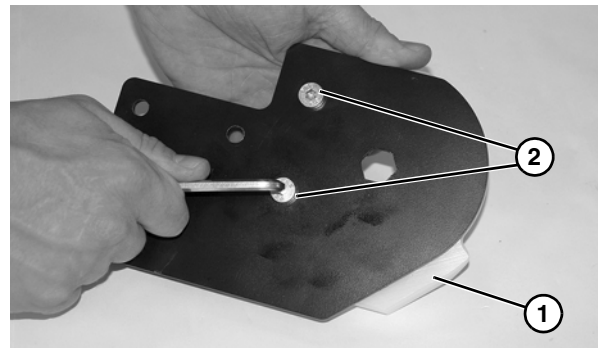

Figure 58
6. Check idler terminal assembly (Figure 58, item 1) for wear. If worn, remove two low head cap screws (Figure 58, item 2) and replace.